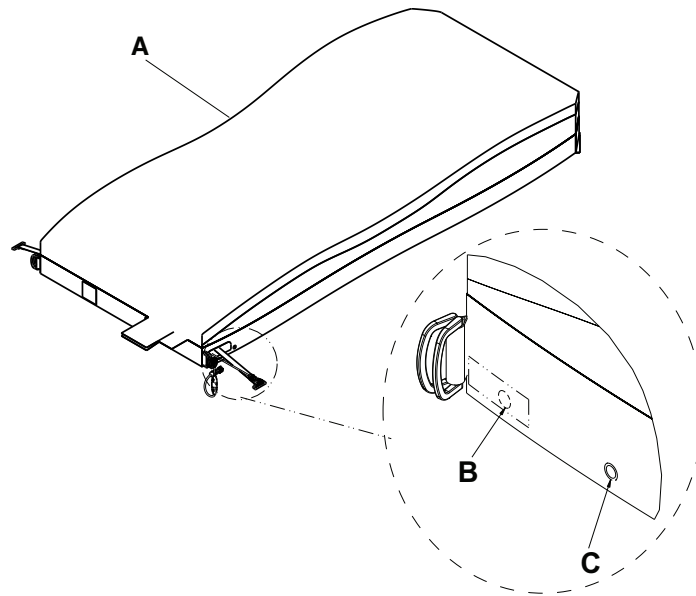

Figure 1 – Top cover
5. Unsnap the two secure snaps (C) at the foot end corners (Figure 1).
6. Unsnap the four corner retainers (B).